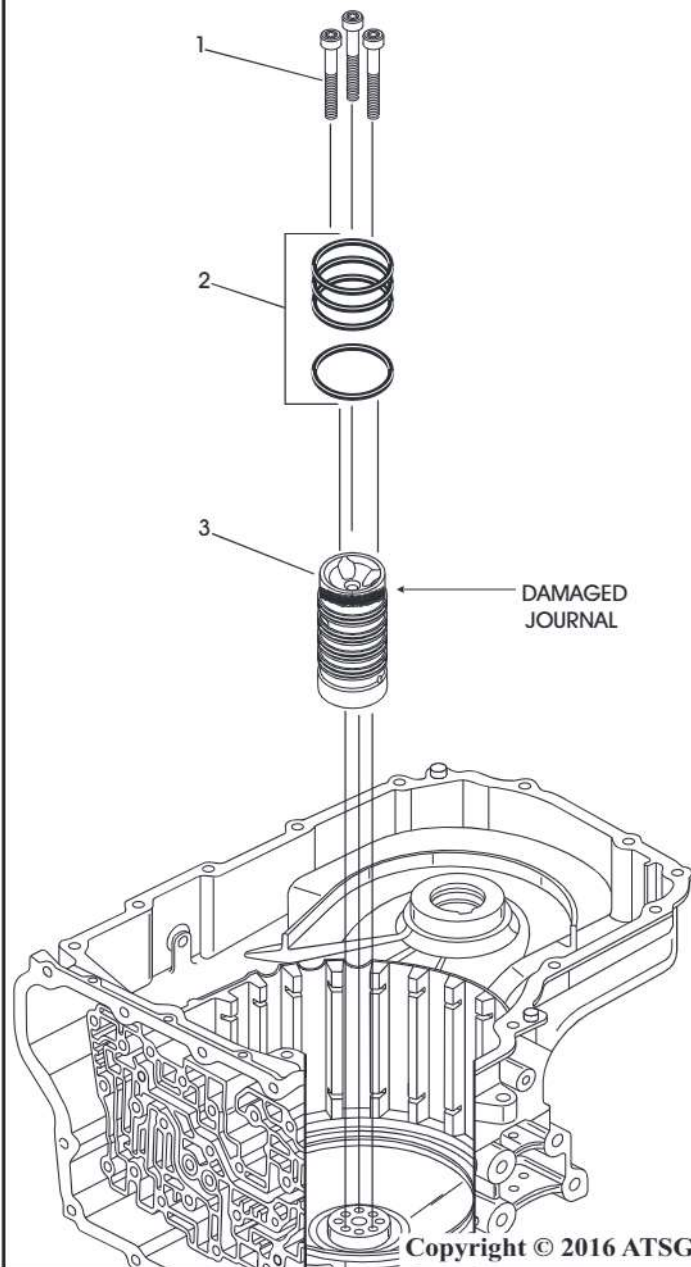

Figure 79
85. Remove the three ring tower bolts and lift the ring tower out of the case as seen in Figure 79.